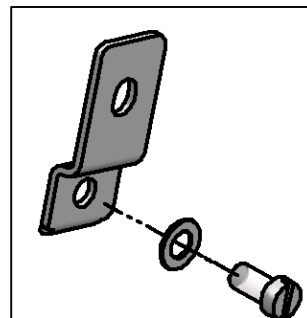

Fig. 5-2 Wall mounting set
- Mount the electric stunning device with our wall mounting set* (Fig. 5-2) at a height of at least 1.6 m.